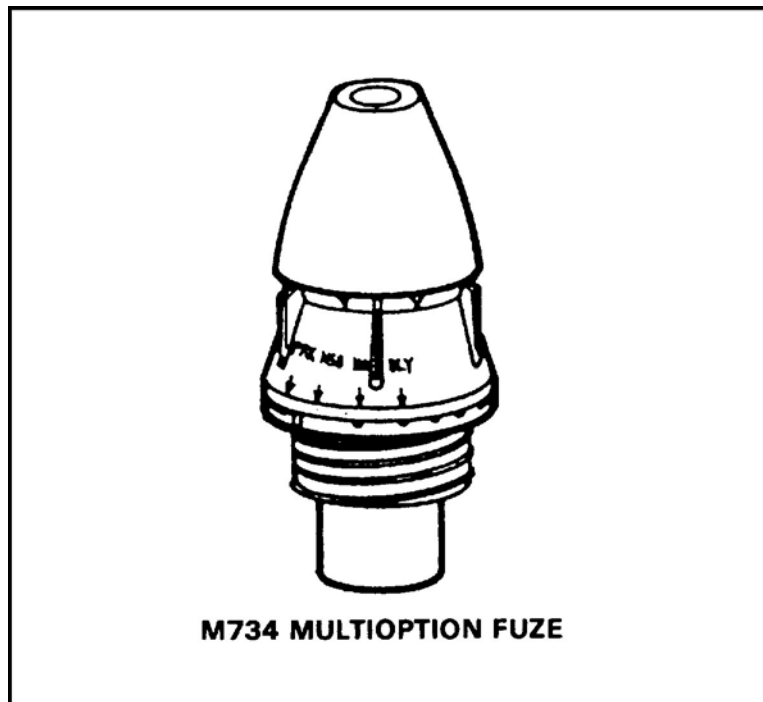

Figure 3. M734 Multioption Fuze
- (2) To prepare the M49 round fuzed with the M525 fuze, the ammunition bearer has only to remove the safety wires.
- (3) The M525 fuze will not arm for a minimum of 3 seconds after firing.
c. M734 multioption fuze (Figure 3):